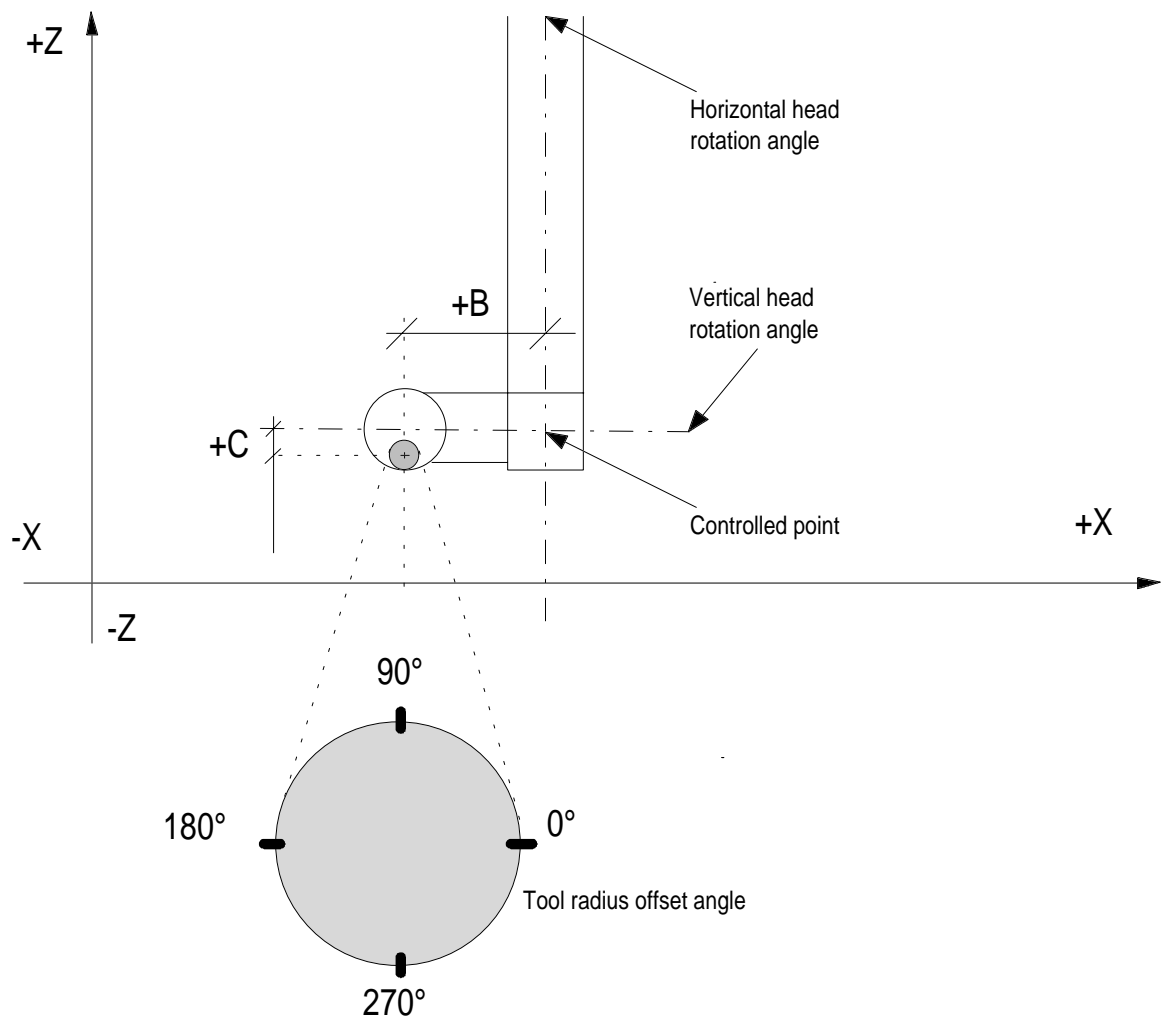

Fig. 2.1 Front View
Configuration parameters must be assigned after the head has been positioned at the angles shown in figure 2.1. These parameters are included in the user table. There are three tools you can use for entering data in the user table: the user table editor, the specific machine logic functions, or the L variables in the program. Also you may upload the predefined configuration files available with the SETUP utility of the USER TABLE EDITOR.
- m angle subtended between the tool center and the point of contact of the tool with the piece (coincides with U.T. parameter 400) - see figures 2.1, 2.5 and 2.6.